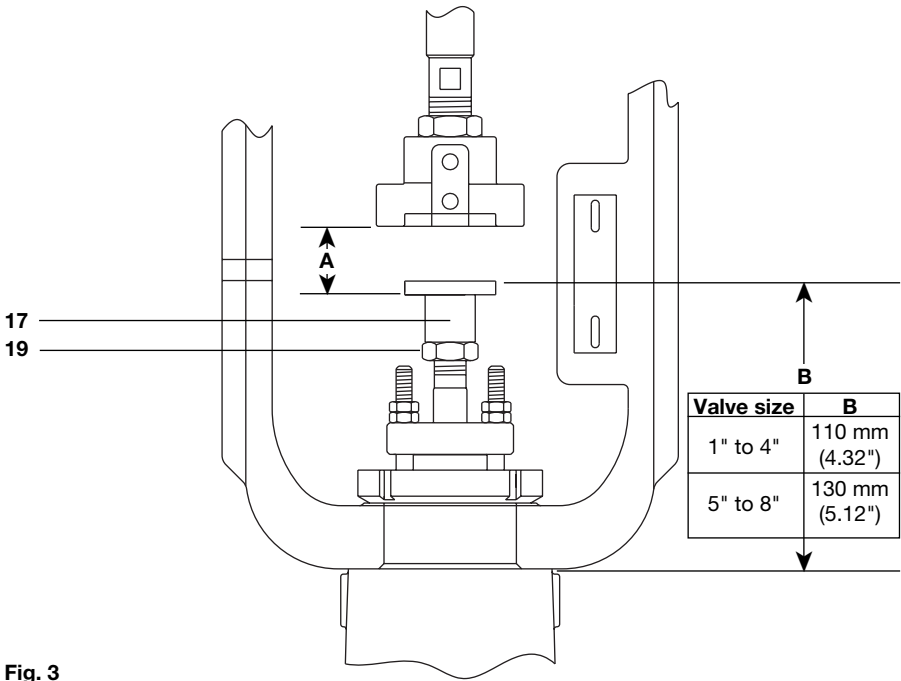

Fig. 3
3.2 Fitting the PN1000 spring-to-extend series actuator to the valve (Refer to Figures 3 and 4):
- Loosen and remove connector locking screws (12) and remove the anti-rotation plate (11).
- Fit the valve spindle adaptor (17) onto the valve spindle and manually push the valve plug to its closed position.
- Place the actuator yoke over the valve spindle and locate onto the bonnet shoulder. Locate and tighten the valve mounting nut (20) to the recommended tightening torque (Table 1, page 14).
- Adjust the position of the valve spindle adaptor (17) so that the distance 'A', as shown in Figure 3, is equivalent to the desired travel indicated on the actuator travel indicator plate (18), then tighten the lock-nut (19) to the recommended torque, see Table 1, page 14.
- Fit the anti-rotation plate (11). Fit the connector locking screws (12) and tighten to the recommended torque (Table 1, page 14).
3.3 Fitting the PN2000 spring-to-retract series actuator to the valve (Refer to Figures 3 and 4):
- Place actuator yoke over the valve spindle and locate onto bonnet shoulder. Locate and tighten the valve mounting nut (20) to the recommended tightening torque (Table 1, page 14).
- Adjust the position of the valve spindle adaptor (17) so that the distance 'B' is equivalent to the value shown in Figure 3, then tighten the lock-nut (19) (see Table 1, page 14).